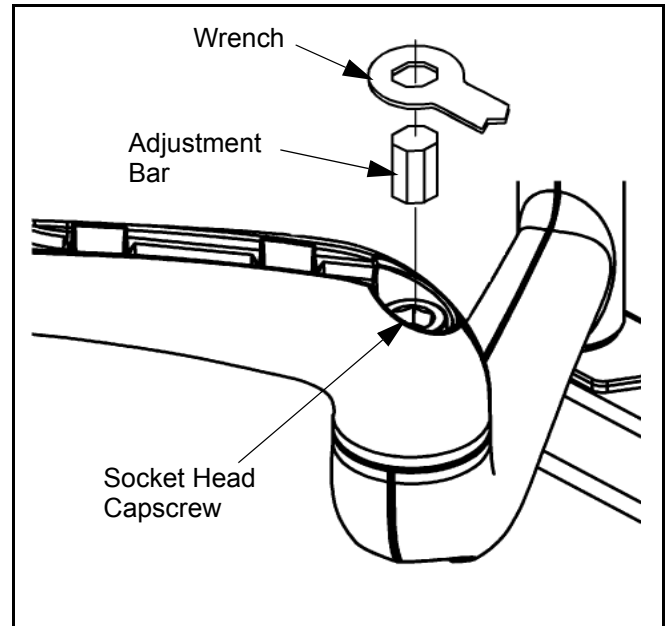

Figure 14: Pivot Arm Tension Adjustment Location
- For Right of Center, see Figure 14.
2. Place adjustment bar into socket head cap screw located at swing arm pivot point. (See figure 14)